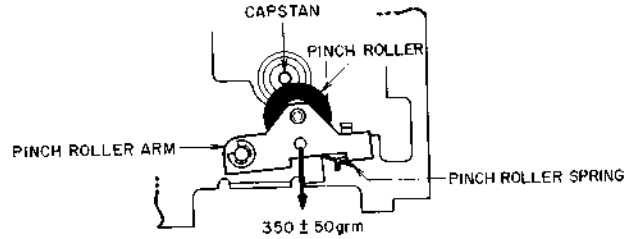

Fig. 25 Pinch Roller Pressure Measurement
3. PINCH ROLLER PRESSURE MEASUREMENT (Refer to Fig. 25)